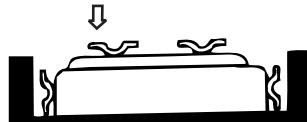

Fig. 6
- To prevent momentary contact failure of several milliseconds in the circuit, the use of a tantalum capacitor, etc. with a capacitance of several microfarads is effective. (See Fig. 6)